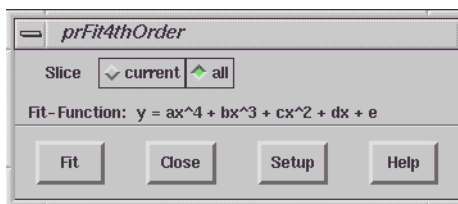

Figure 6-21 A baseline correction for a 2D dataset.
8. **Baseline correction for 2D dataset.** Xepr allows you to fit the baseline for all slices of a 2D dataset. Load a 2D spectrum in the **Primary** dataset. Select the common baseline area for all slices by using the **Define Region**. Click one of the polynomial function buttons. A dialog box appears in which you can select either **current** or **all** in the **Slice** box. (See Figure 6-21.)